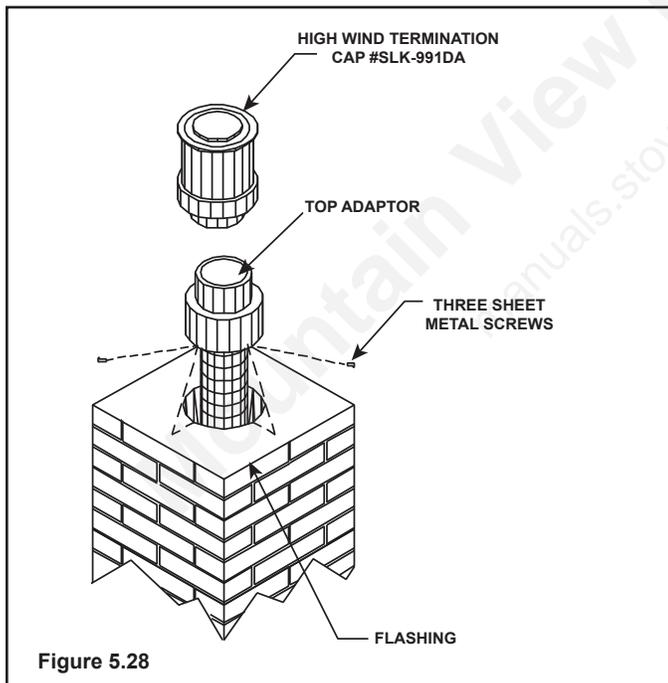

Figure 5.28
- Secure the top adapter to the flashing. Use three sheet metal screws through the side of the top adapter into the flange on the flashing (Figure 5.28). Twist lock the high wind termination cap on to the top adapter.